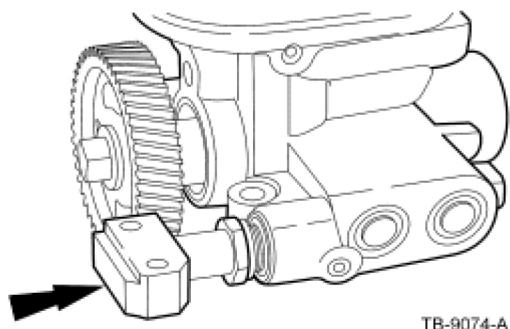

Figure 9 - Article 08-18-6
Install the branch tube adapter into the high-pressure oil pump by threading it five (5) complete turns to set proper depth and set proper orientation. Tighten the jam nut to seat the O-ring at this time. (Figure 9)